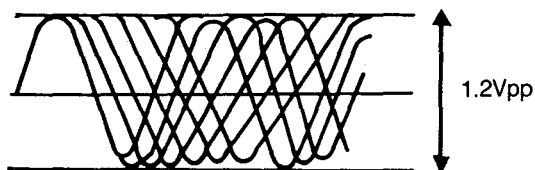

Figure 1
#### 2) Adjusting procedure (Figure 1)
- Connect the oscilloscope to TP1 (RF) and TP4 (GND)
- Adjust VR101 so that oscilloscope indicate the figure shown in Figure 1.